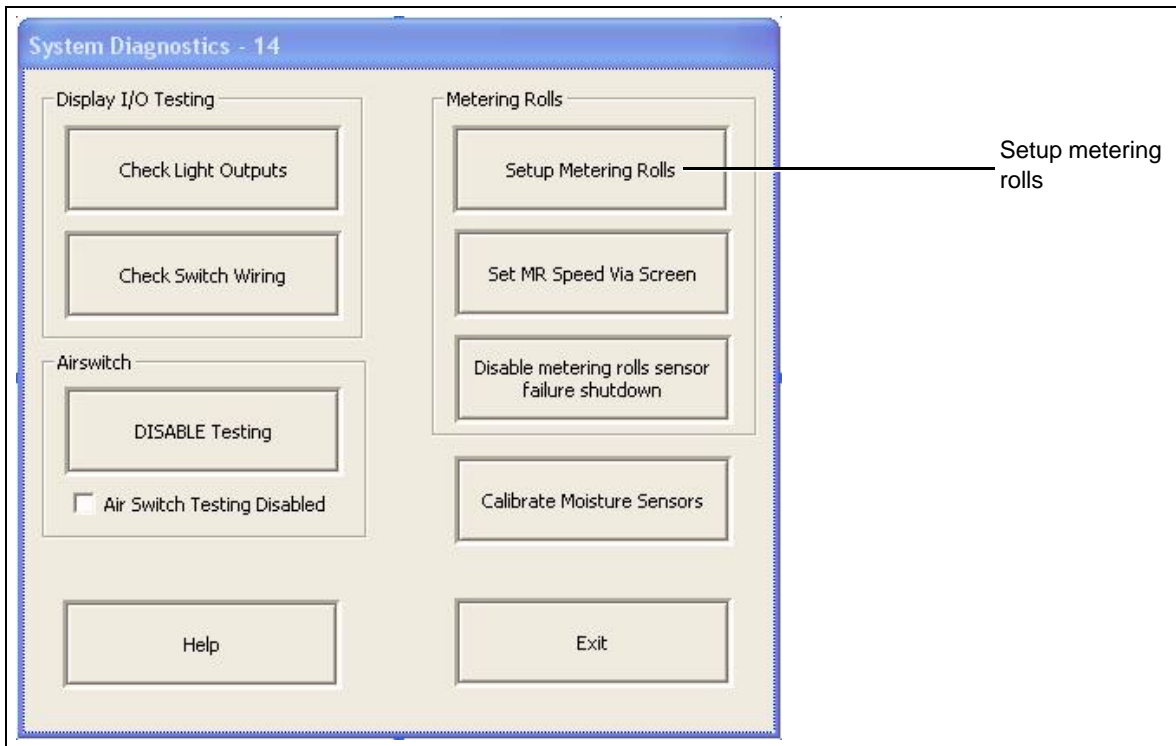

Figure 3I
- Press the “Diagnostics” button to display the “Systems Diagnostics” screen, then press the “Setup Metering Rolls” button. (See Figure 3I.)